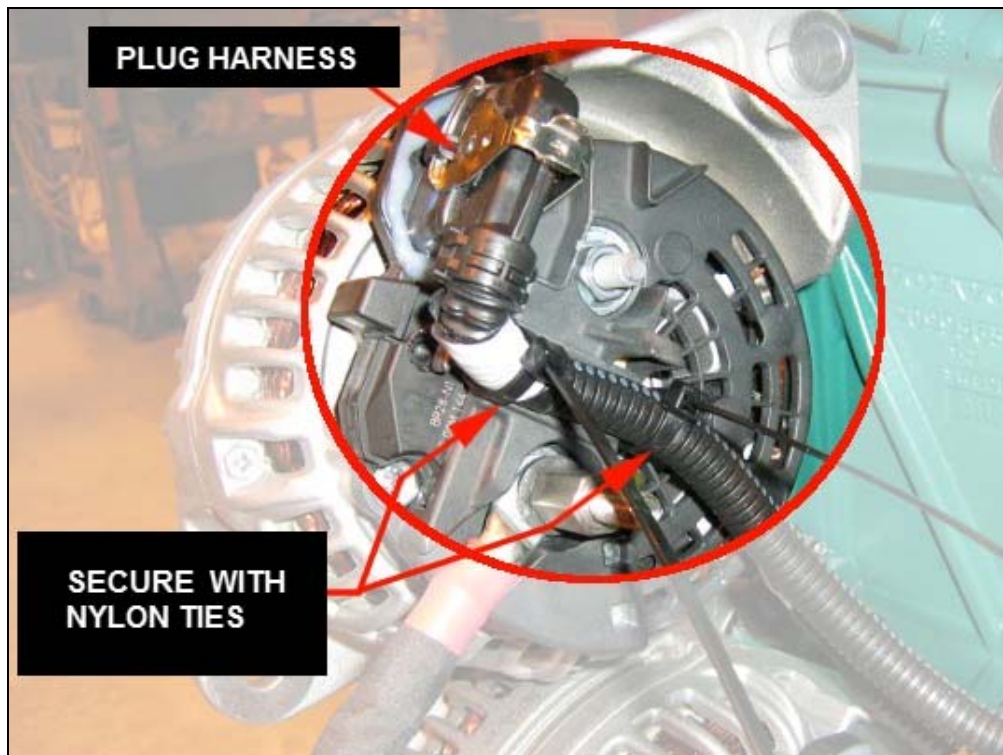

FIGURE 28
16. Plug alternator harness onto alternator connector and secure using nylon cable ties (FIGURE 28).